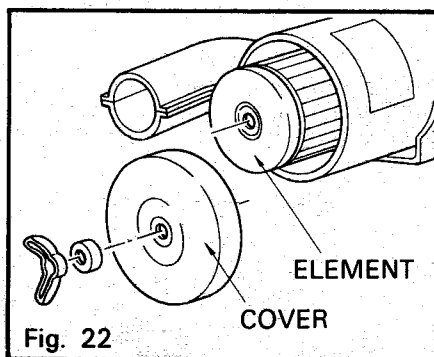

Fig. 22
## ⑪ INSPECTING AND SERVICING THE AIR CLEANER (FIG. 22)